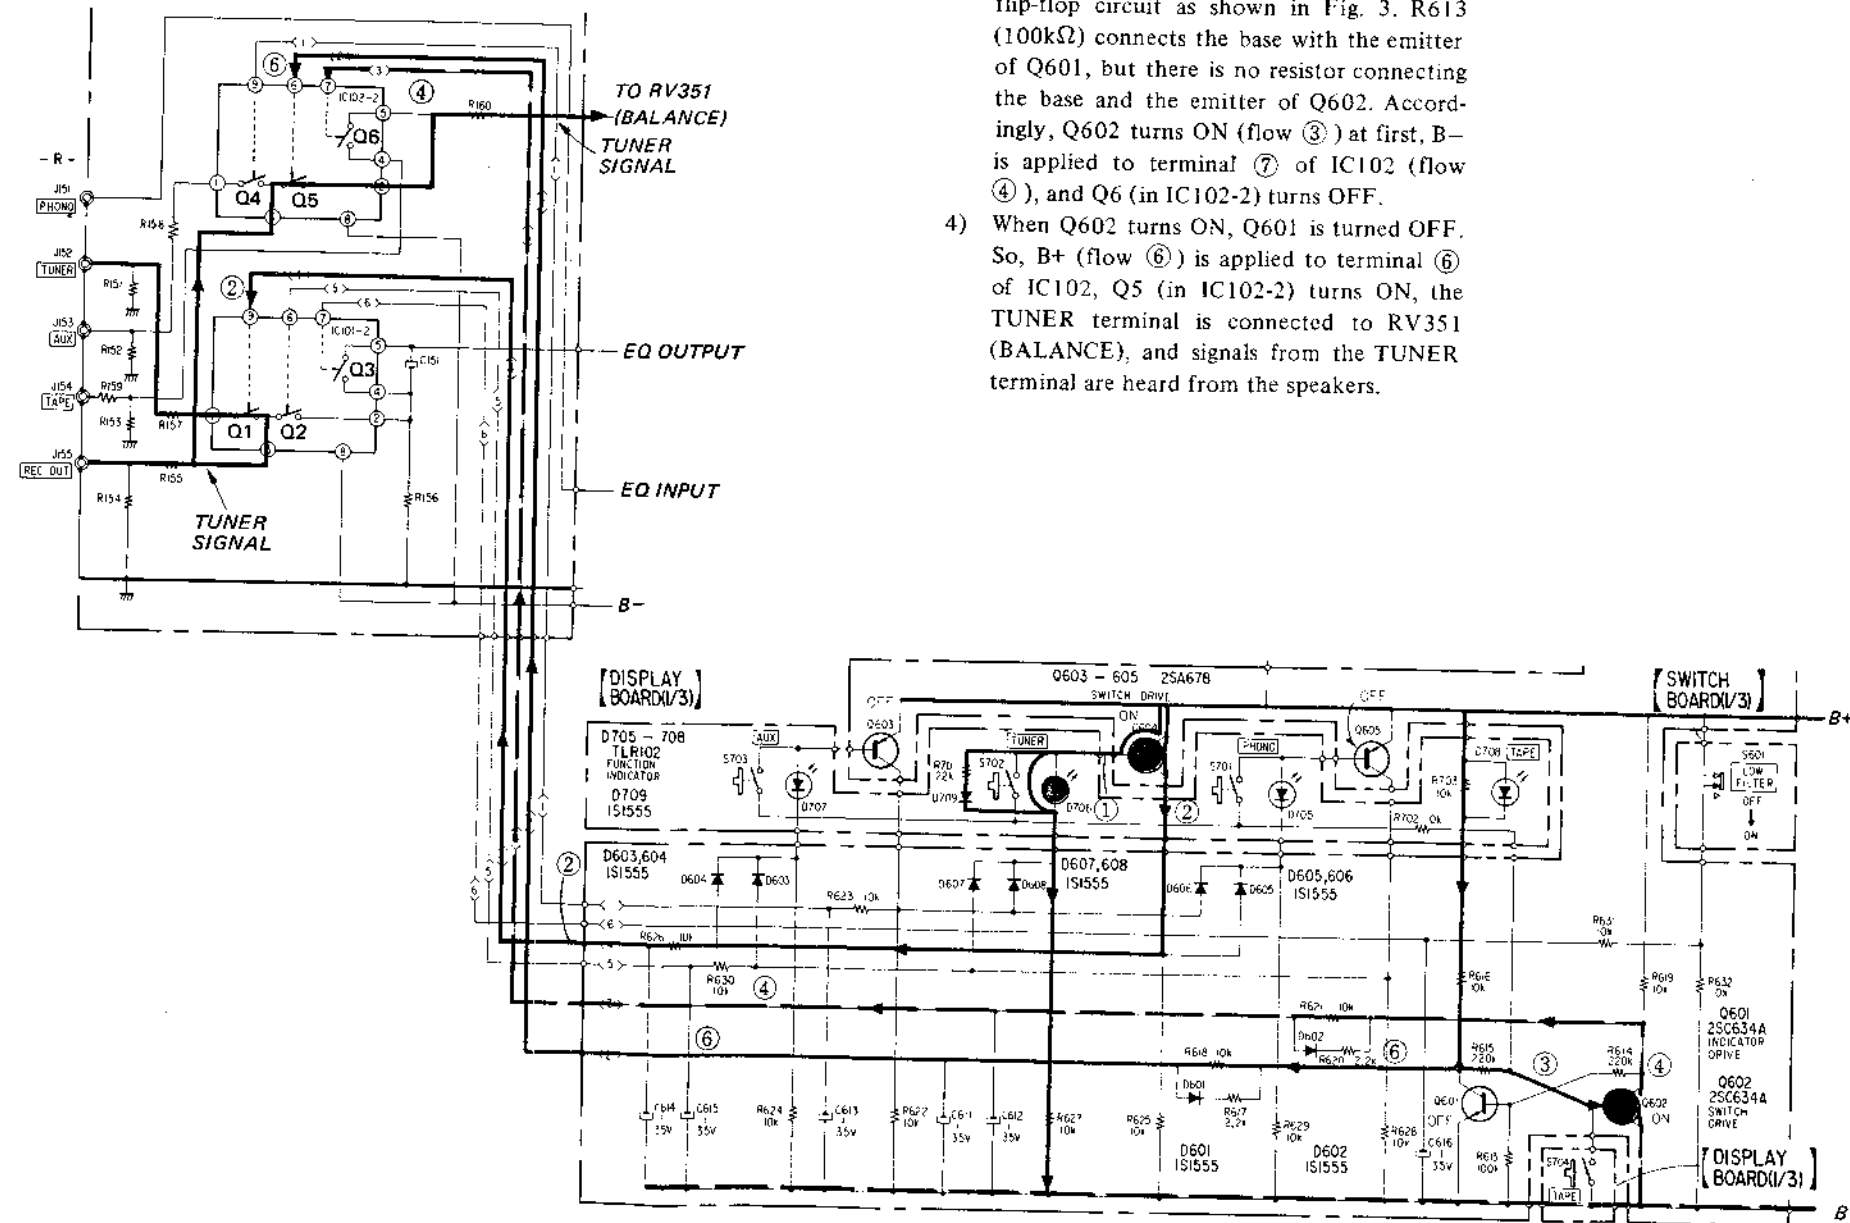

Fig. 3
1. When the POWER switch (see Fig. 3) is turned ON;
- 1) Bias voltage is applied to the base of Q604 (flow ①) which will be turned ON, and the light emitting diode D706 is illuminated.
- 2) When Q604 is ON, B+ (flow ②) is applied to terminal ⑨ of IC101, and the signal from Q1 (in IC101-2) is delivered at REC OUT. (When this amplifier's power switch is turned on, the tuner input circuit is activated.)
- 3) On the other hand, Q601 and Q602 form a flip-flop circuit as shown in Fig. 3. R613 (100kΩ) connects the base with the emitter of Q601, but there is no resistor connecting the base and the emitter of Q602. Accordingly, Q602 turns ON (flow ③) at first, B- is applied to terminal ⑦ of IC102 (flow ④), and Q6 (in IC102-2) turns OFF.
- 4) When Q602 turns ON, Q601 is turned OFF. So, B+ (flow ⑥) is applied to terminal ⑥ of IC102, Q5 (in IC102-2) turns ON, the TUNER terminal is connected to RV351 (BALANCE), and signals from the TUNER terminal are heard from the speakers.